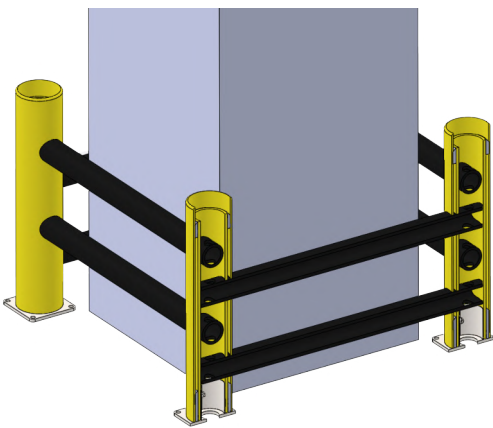

Figure 5. Installation of the finite section
5. Similarly, install and fix the last section of the barrier with 32 mm diameter pipes (Figs. 5 and 6).